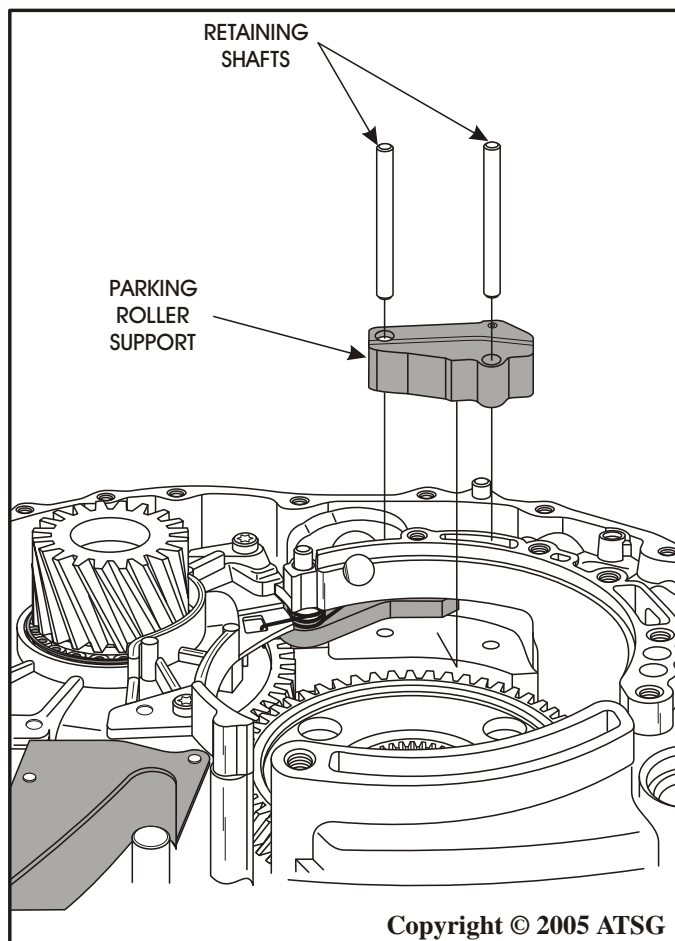

Figure 58
75. Remove the two shafts and the parking rod roller support, as shown in Figure 58.